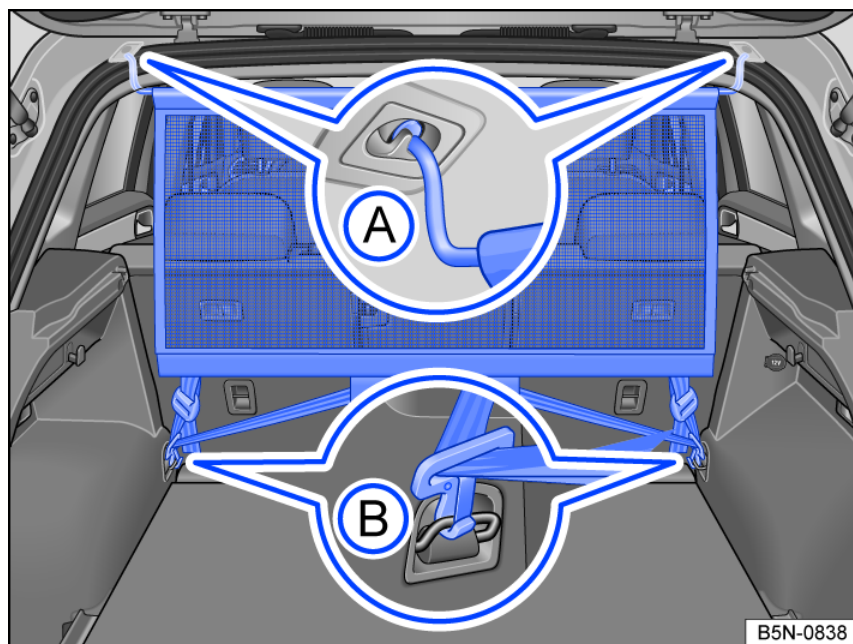

Fig. 156 In the luggage compartment: Install the net partition behind the rear bench seat.
- Attach the net partition to one of the two mounts in the roof fig. 156 ①. Make sure that the crossbar is pulled down over the top position.
- Attach the net partition to the opposite mount in the roof by pressing together the crossbar fig. 156 ①.
- Attach both retaining hooks of the net partition to the tie-downs in the luggage compartment and tighten the fastening straps fig. 156 ②.
- Unhook the net partition retaining hooks from the tie-downs fig. 156 ②.